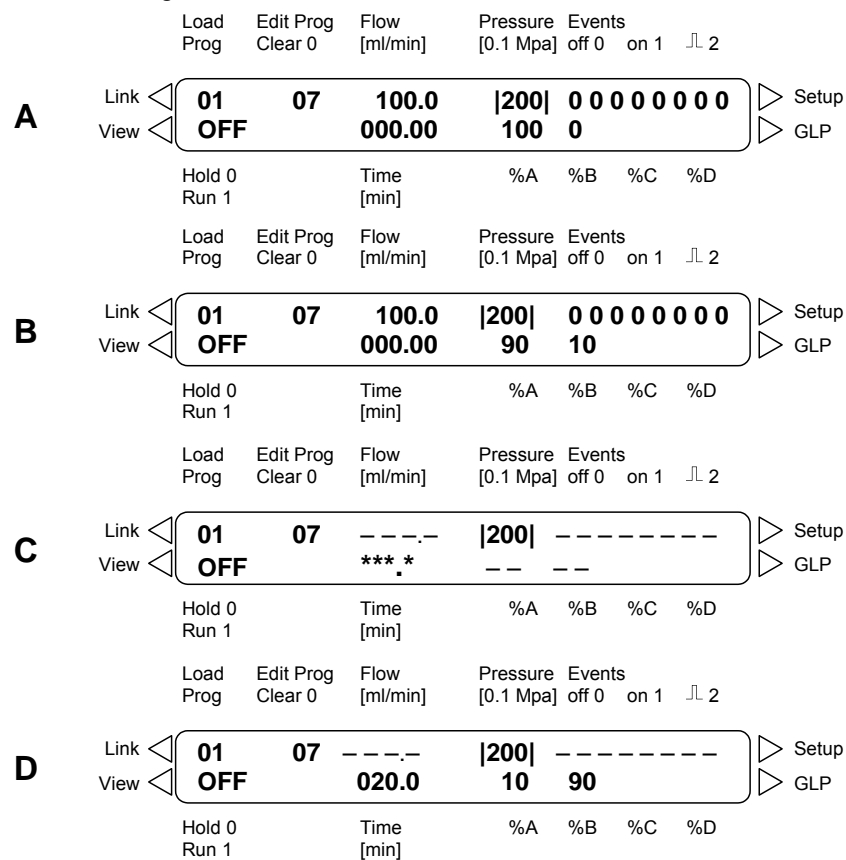

Fig. 22 Display of single steps, when creating a program
If you generate a new line, all parameters are set to status No Change, displayed as underscore characters, see Fig. 22 on page 25, part D. The No Change-feature allows changing single parameters without reentering the values for others.
4. Press \blacktriangle to set the flow rate: Press 1, 0, 0 and then ∇ to enter the value 100.0 mL/min. The display should look like part A see Fig. 22, cursor blinking in the TIME field.